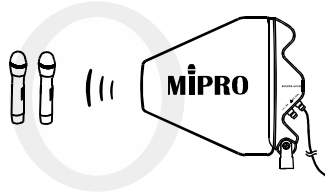

Fig. 4: Correct. Transmitter Microphones are facing the AT-90W.
2. TX/RX Antenna Cable Connector ② can be connected with 10m antenna cable to MI-909T transmitters, AD-808 antenna combiner, any ACT-Series receiver or AD-708 antenna divider.
3. RX Only Connector ① has to be connected to an ACT receiver or AD-708 antenna divider. When the receiver or AD-708 is powered on, the Power LED Indicator of AT-90W glows to indicate booster is active. Booster is inactive when Power LED Indicator does not glow when powered on.
5. Adjust antenna's directional angel to proper position for best performance result, Fig. 4, 5.